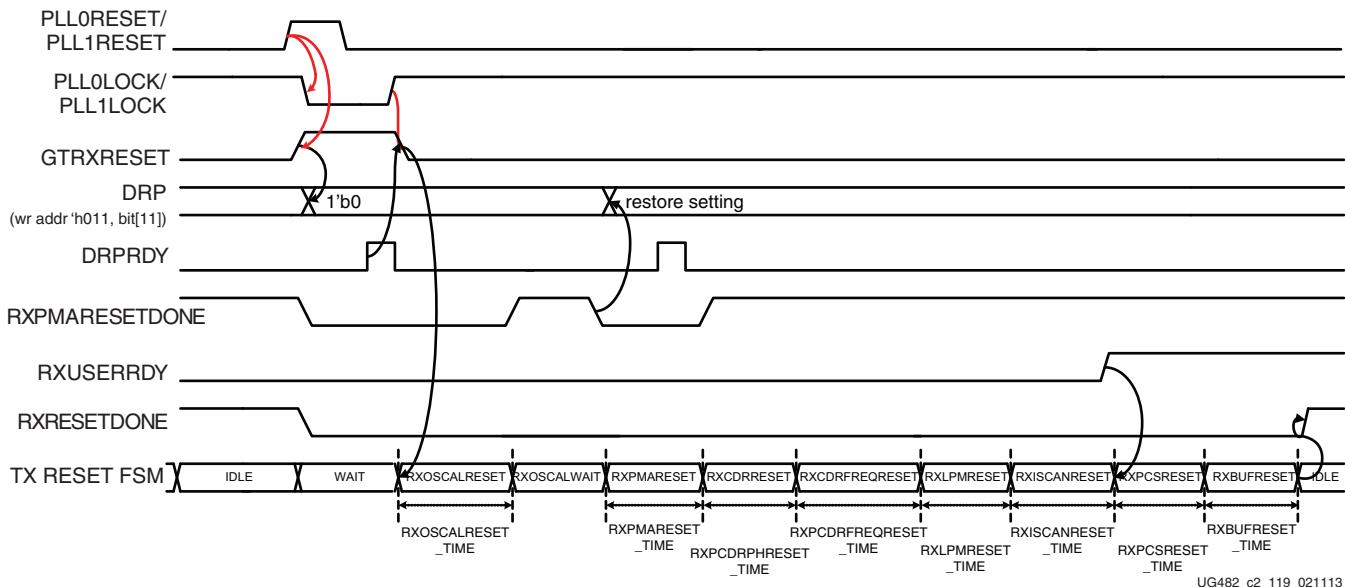

Figure 2-19: GTP Transceiver Receiver after FPGA Configuration
When users want to issue an GTRXRESET upon configuration, the steps in Figure 2-19 should be performed.
Notes relevant to Figure 2-19:
2. The sequence of events in Figure 2-19 is not drawn to scale.
Note: It is recommended to use the associated PLLLOCK from either the PLL0 or PLL1 to release GTRXRESET from High to Low as shown in Figure 2-19.